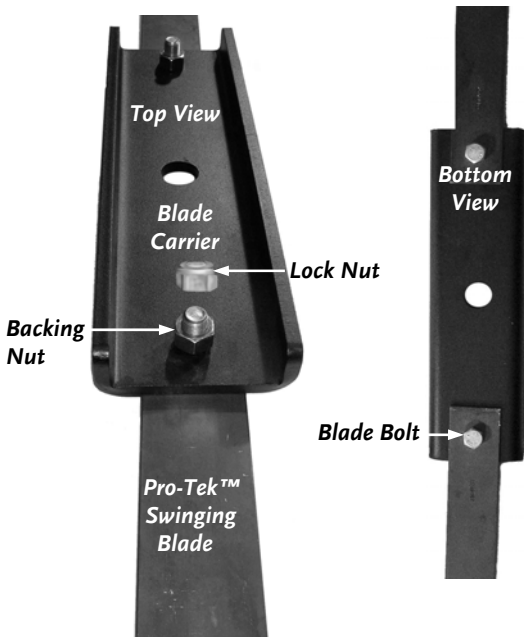

Figure 25
1. Using two 15/16" Wrenches, remove the Top Lock Nut (right-hand, regular thread), the Backing Nut, and then the Blade Bolt followed by the Pro-Tek™ Swinging Blade (Figure 25).
3. Install the Backing Nut until it seats finger tight against the Blade Carrier to allow for the Blade Swinging action (Figure 25).